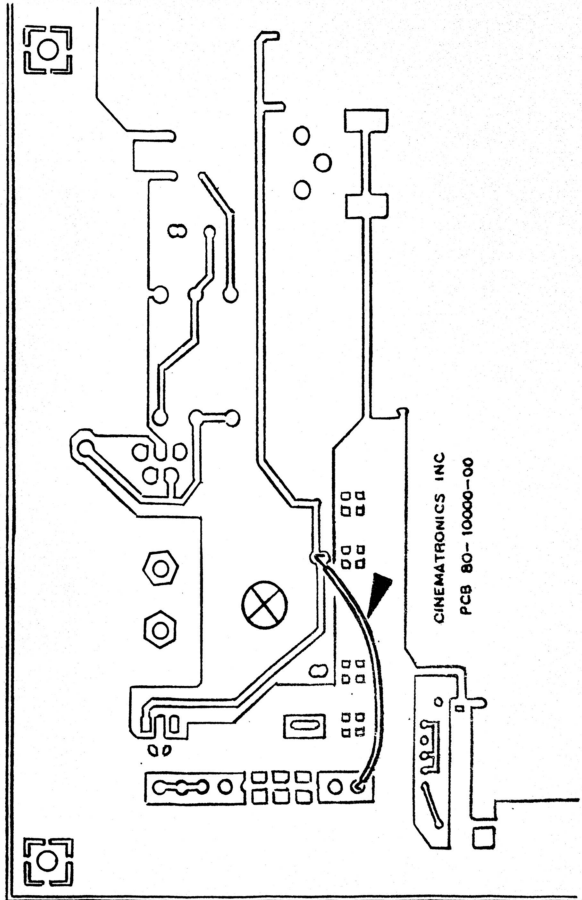

Figure 1
Step 3: With the regulator removed, place an insulated 18-gauge wire from pin 10 of connector P3 to the output pin of previously removed regulator on the underside of Cinemat PC board as shown in Figure 1.